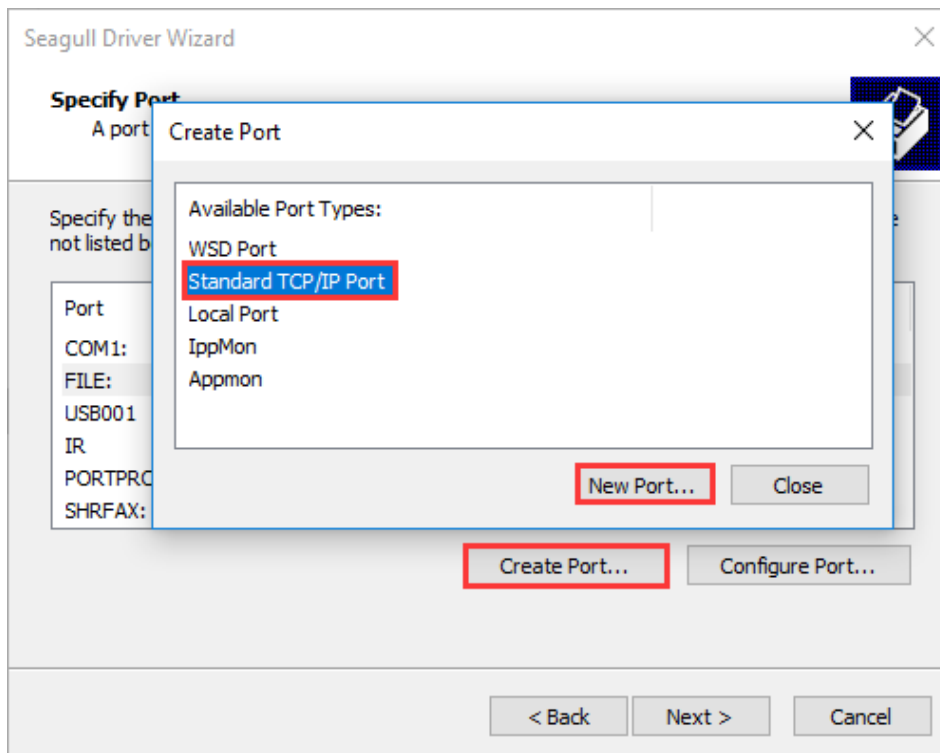

Figure 2-30 Create Port
- 5. On the “Specify Port” screen, click “Create Port...” to bring up “Create Port” dialog box, select “Standard TCP/IP Port” - “New Port...”, as shown in Figure 2-30.